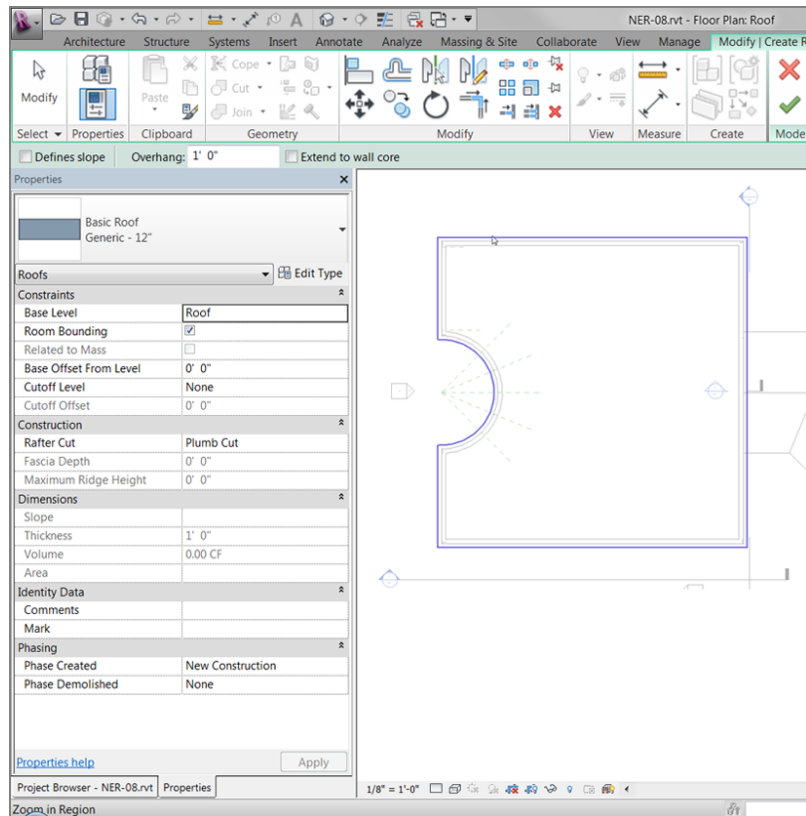

FIGURE 7.39: The perimeter of the roof is set.
11. Pick the wall. The magenta lines are completely drawn in. Your sketch should look like Figure 7.39.